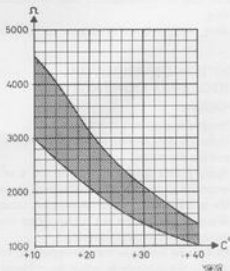

Fig. 2-194. Resistance in temperature sensor for coolant
1. Measure the resistance between the terminal pins and compare with Fig. 2-194.